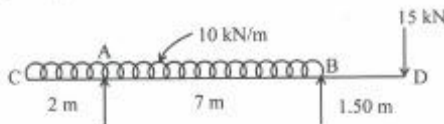

Fig. Q. 12. (a)
- (ii) Direct stresses of  $140\text{N/mm}^2$  tensile and  $100\text{N/mm}^2$  compression exist on two perpendicular planes at a certain point in a body. They are also accompanied by shear stress on the planes. The greatest principal stress at the point due to these is  $160 \text{ N/mm}^2$ . (8)
- (1) What must be the magnitude of the shear stresses on the two planes?
- (2) What will be the maximum shear stress at the point?
12. (a) Draw SFD and BMD and indicates the salient features of beam loaded Fig. Q. 12. (a) (16)